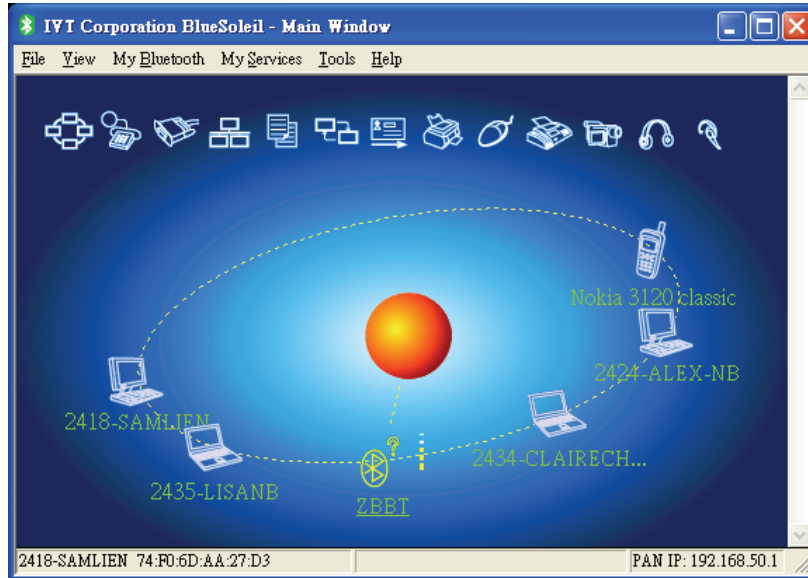
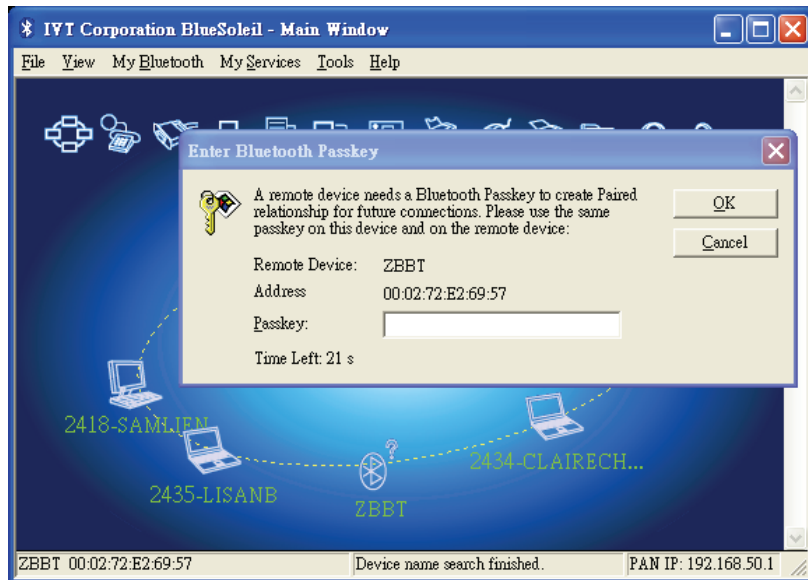

Fig 1
Fig 2
2. In Fig 1, a list of Bluetooth devices are shown on the screen. Z-2121 will appear as “ZBBT”. Double click “ZBBT” to make the connection. Fig 2 appears prompting for password.